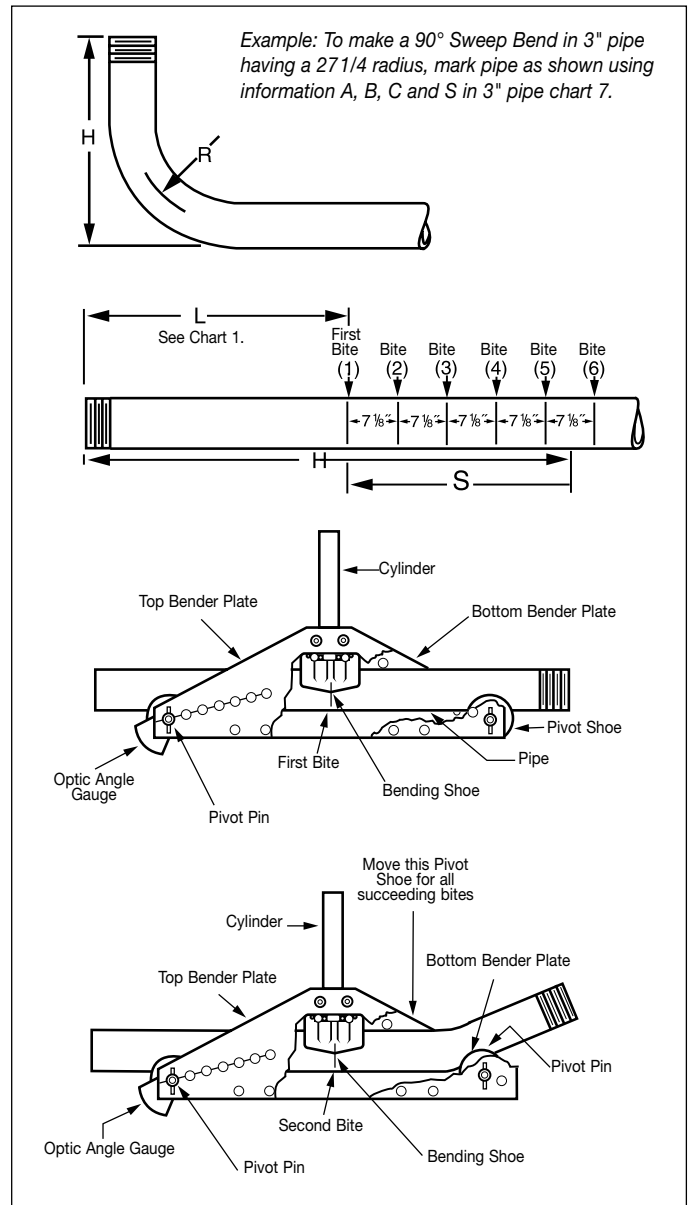

Figure 8, 90° Sweep Bend
- Mark desired stub-up (H) dimension on straight length of pipe (see Figure 8).
- Locate the size of pipe you are bending in Chart 6. Select the desired sweep radius to find set-back (S) dimension.
- Measure back dimension (deduct (S) and mark pipe).